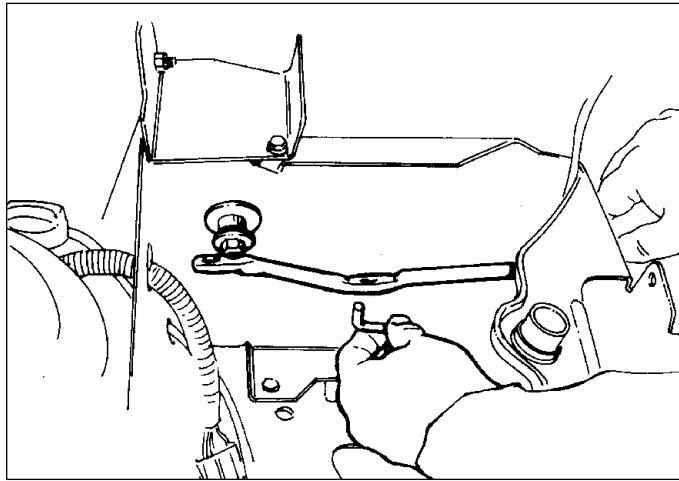

Figure B-28. Twist Lift Handle Rod 90° To Disengage From Upper Lift Link
2. Slide the lift handle rod off the spacer, and twist 90° to disengage from the upper lift link (Figure B-28). The lift handle rod can be removed through the slot in the lower dash. Inspect for wear or damage, and replace as required.